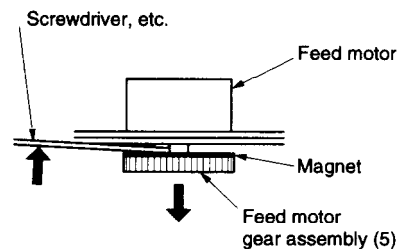

Fig. 14
4. Remove the feed motor gear assembly (5) using screwdriver, etc. with care taken not to break the magnet. (Refer to Fig. 14.)